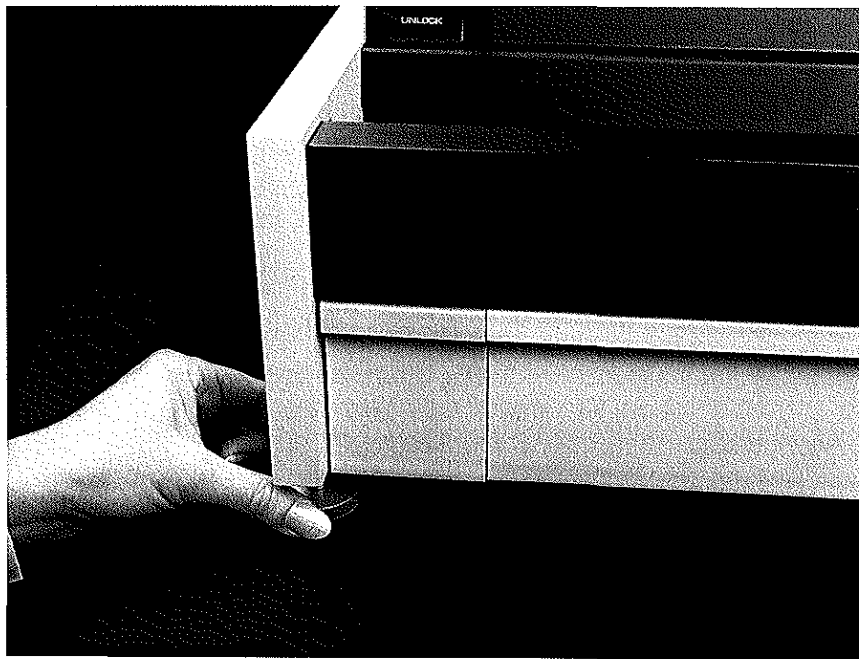

Figure 2-1
- b. Adjust the two feet located under the front corners of the instrument to raise or lower the instrument to a level position (Figure 2-1). Observe the circular level to indicate when the feet have been properly adjusted and the instrument is level; that is, the bubble in the level should be centered within the inscribed circle. Do not remove the circular level from its location behind the operating lever.